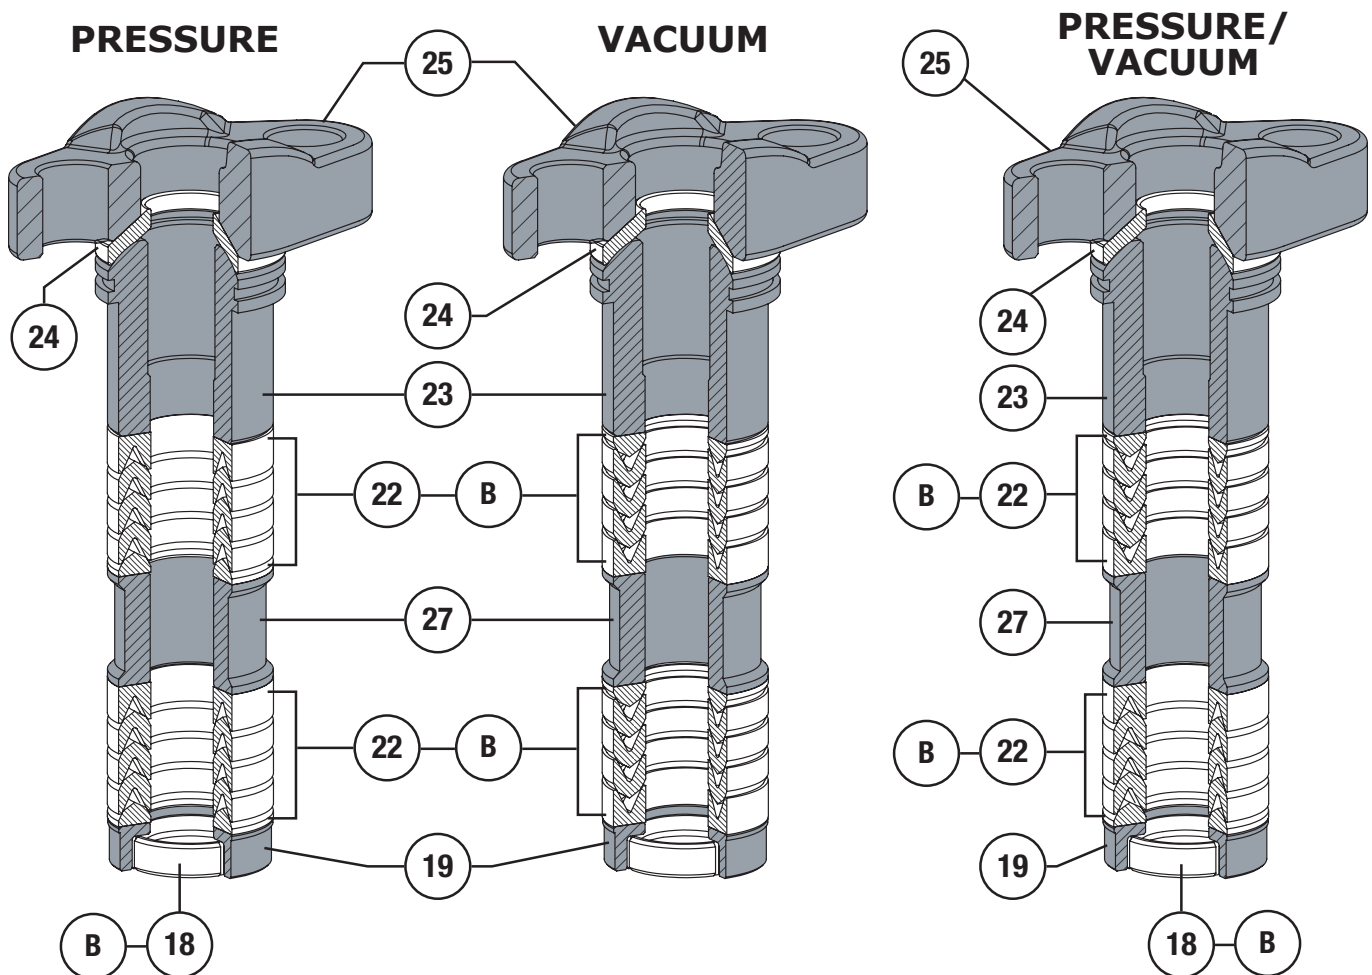

Figure 28 PTFE Packing Arrangement Diagrams
- 2 Apply Molykote® 5 (Key B) to the first set of packing rings (Key 22). Install the packing rings one ring at a time (as shown in Figure 25) in the proper order and orientation as shown in Figure 28.
- 4 Apply Molykote® 5 (Key B) to the second set of packing rings (Key 22). Install the packing rings one ring at a time (as shown in Figure 25) in the proper order and orientation as shown in Figure 28.